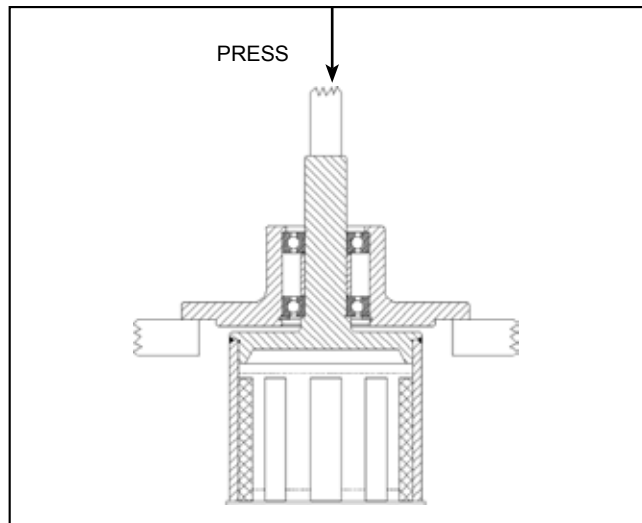

FIGURE 24
2. Remove the external retaining ring from shaft, place the unit into a press and push out shaft as shown in **Figure 24**. Support the outer magnet to prevent it from dropping and possibly being damaged.